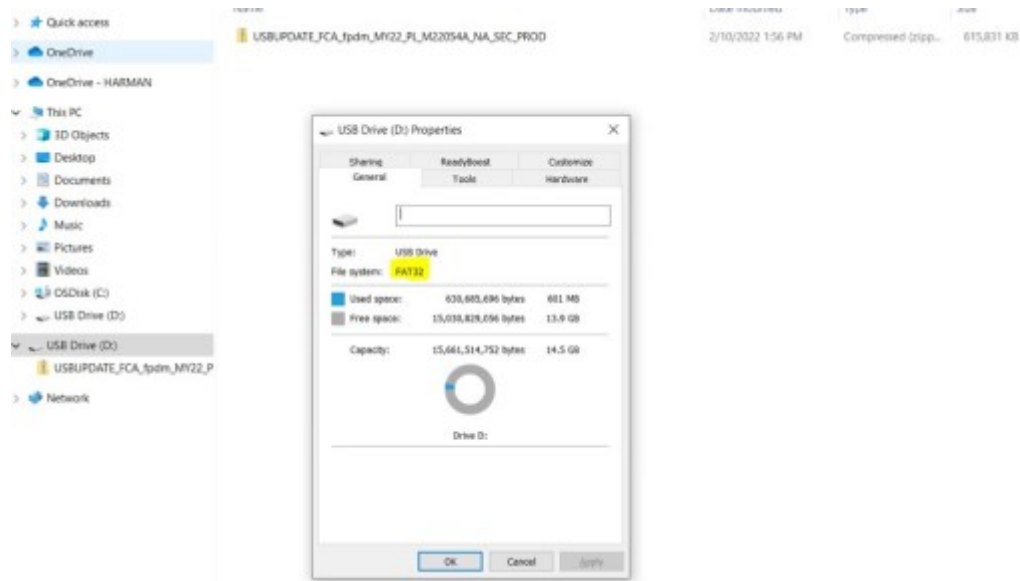

Fig. 2
- 7. Copy the update zip file to the root of a USB flash drive. (DON'T RENAME OR UNZIP) (Fig. 2) .